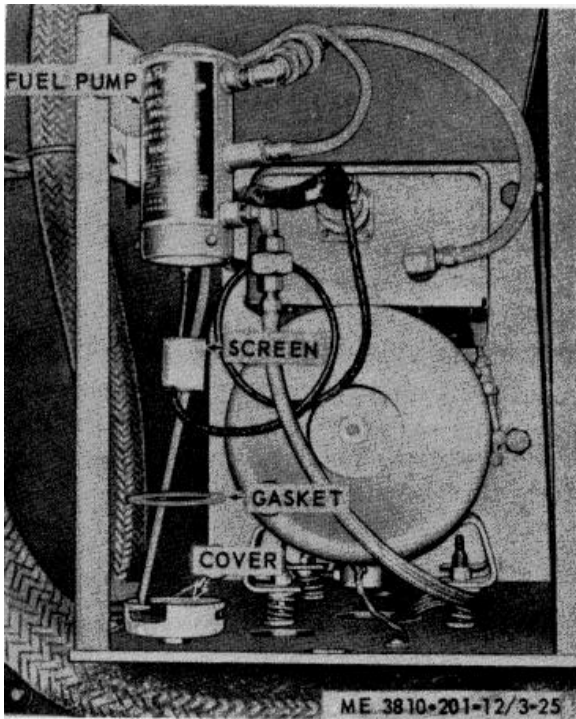

Figure 3-25. Heater fuel pump service (winterized models).
- a. Remove cover (fig. 3-25) from pump by turning cover counterclockwise until pins are in slot, then pull down.